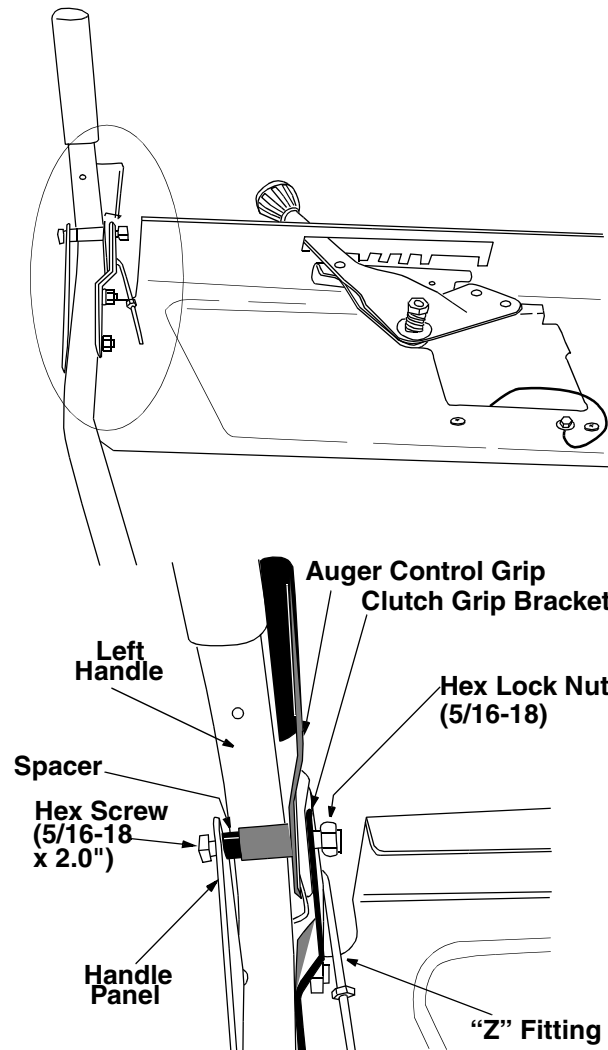

Figure 5
- Place the auger control grip on top of the left handle. The triangular metal tab must be between the handle and the grip bracket. See Figure 5.
- Secure with hex screw, spacer and lock nut. See Figure 5. (Do not overtighten this bolt as it will prevent the grips from automatically returning to their upright position.)